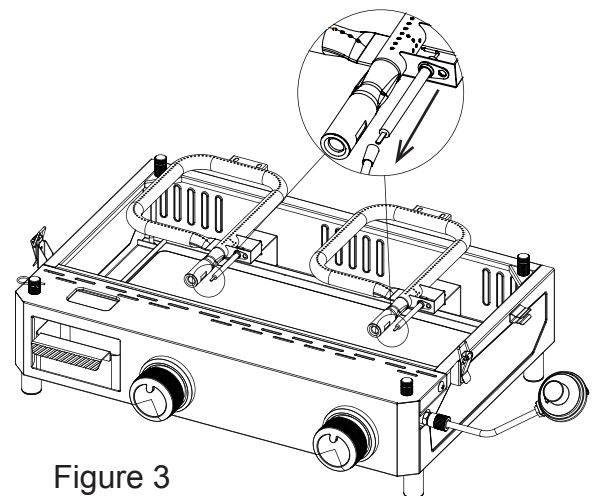

Figure 3
4. Detach ignition wires from electrode as illustrated in Figure 3 and slide burners out from firebox.